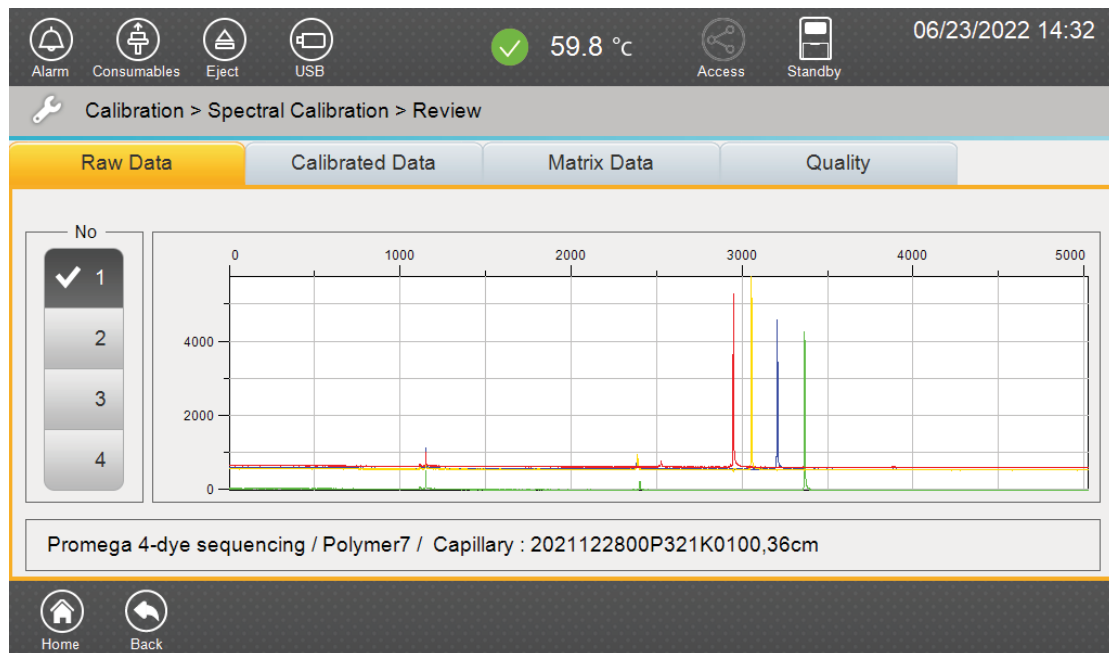

Figure 10. 'Spectral Calibration' screen, 'Raw Data' tab.
1. Following the run, the 'Raw Data' tab (Figure 10) will be displayed. The minimum peak height for spectral calibration is 500 relative fluorescent units (RFU) and the maximum peak height is 32,767RFU.